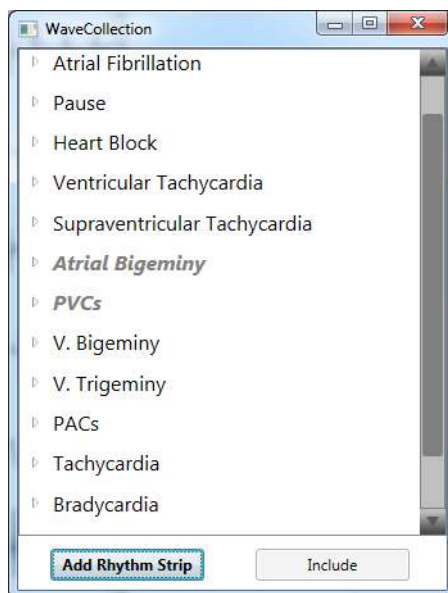

Figure 7.7. The Rhythm Strip Tool.
**Add Rhythm Strips:** Select the segment of the ECG that you wish to add to the report (i.e. it is displayed in the 10 second window at the bottom of TraceViewer). Next, click the “Add Rhythm Strip” button, Figure 7.7. A window similar to the following is displayed: